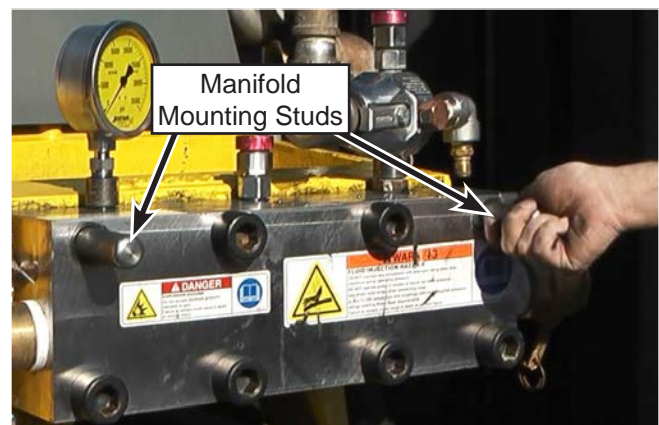

Figure 25: Manifold Mounting Stud Installation.
8. Install manifold mounting studs (Figure 25) into the two open holes to allow for easier installation of the new manifold.